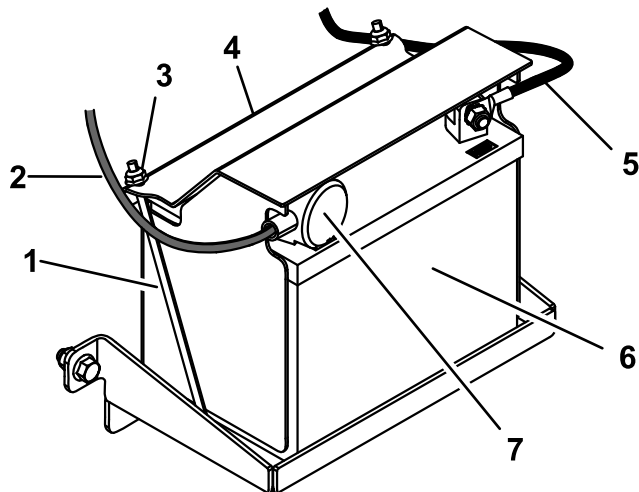

Figure 29
1. Place the battery on the tray and secure it using the battery cover, 2 securing rods, and 2 nuts (Figure 29).
4. Slide the red terminal boot onto the positive battery post (Figure 29).